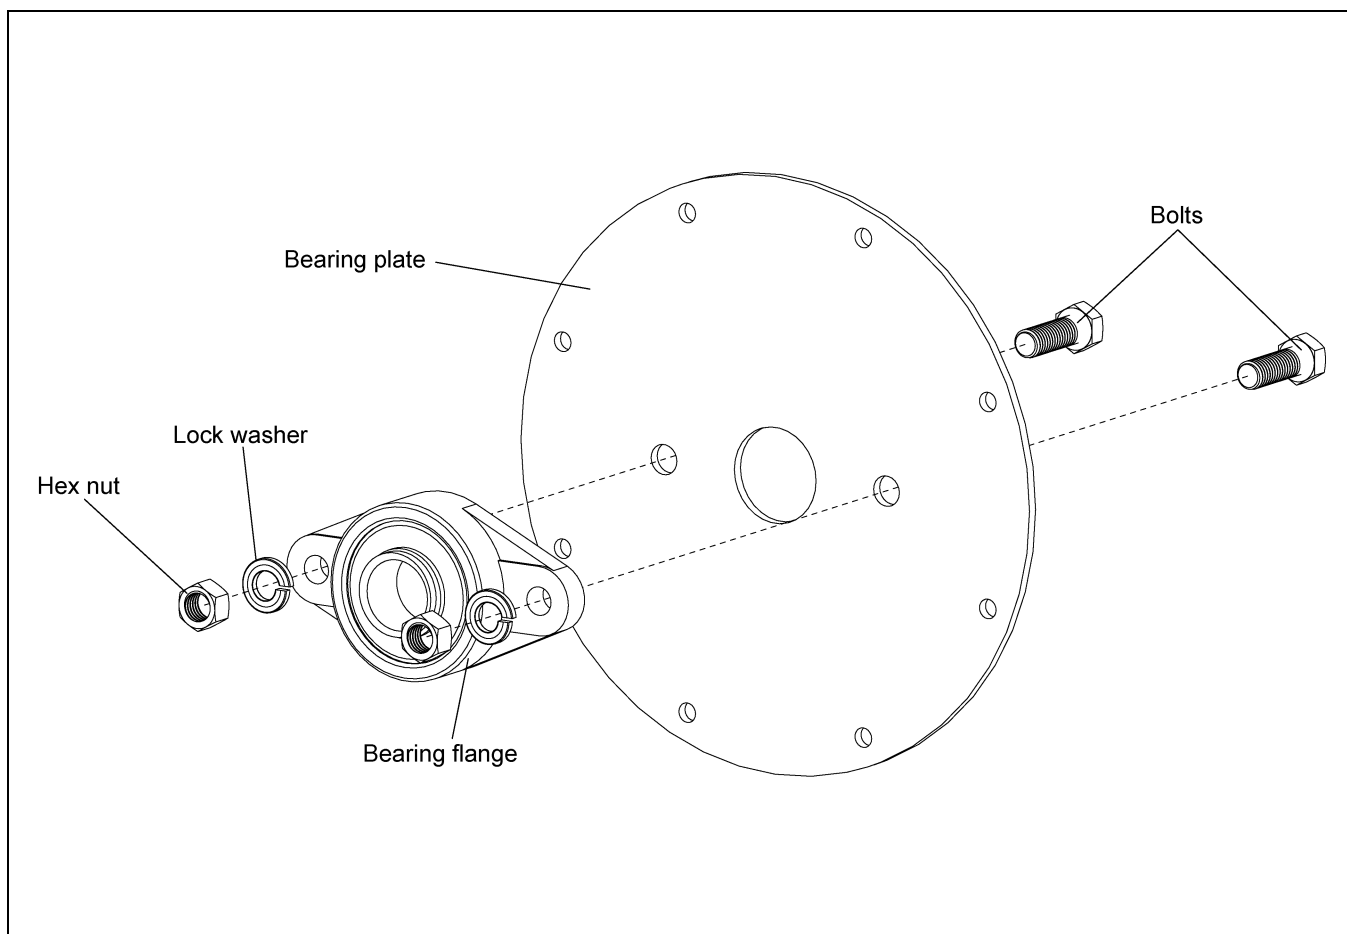

Figure 4C
2. Secure bearing to bearing plate using appropriate bolts, lock washers, and nuts. *(See Chart below and Figure 4C.)*